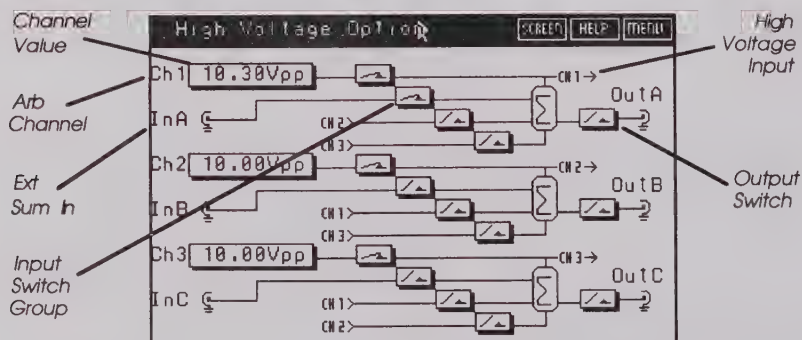

Figure D-5. High Voltage Option Screen
- Select HIGH VOLTAGE from the OPTION screen. The Model 295 displays the High Voltage Option screen (Figure D-5).
If an arb channel is not installed, the Channel Value field and its associated input switch will not be shown. High Voltage Input channel numbers appear on the screen in the Input Switch Group only when an initial channel is selected. Figure D-5 illustrates a unit with all three arb Channels installed and selected on the screen; call outs in the figure refers to the A amplifier section.